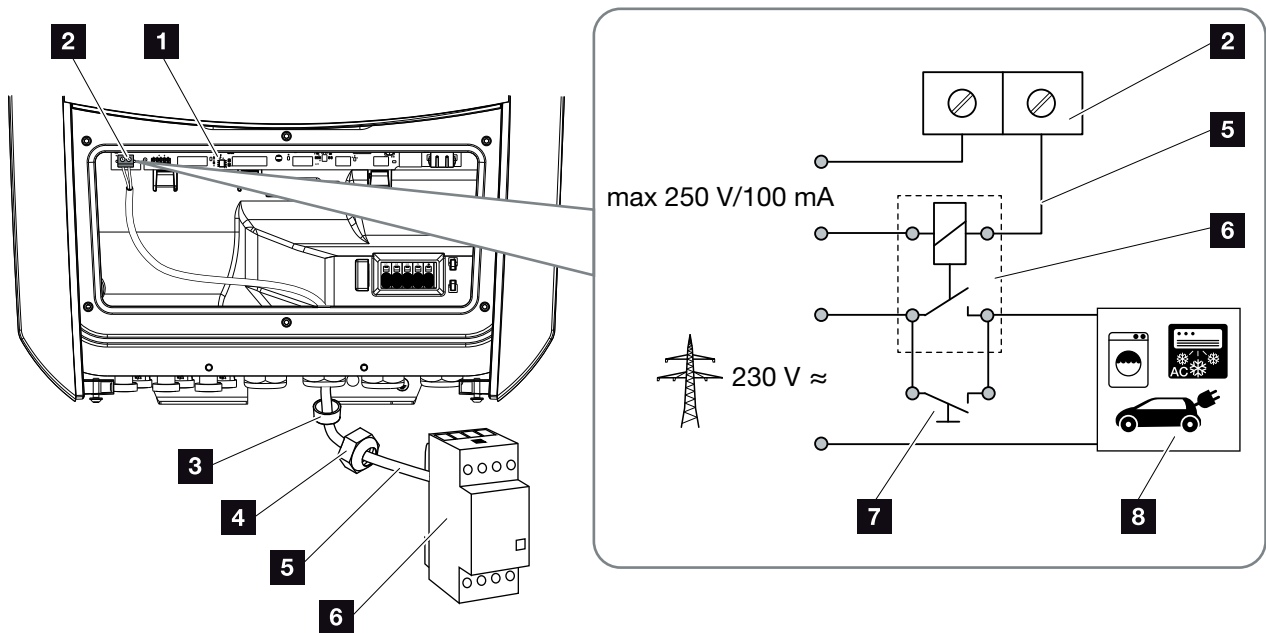

Fig. 61: Electrical connection for self-consumption
2. Correctly connect load relay to the terminal for self-consumption on the Smart Communication Board (torque: 0.5 Nm).  **Fig. 61, It. 2**